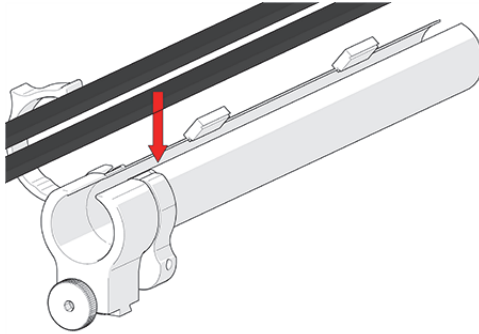

Figure 3-52 Insert cables and hoses
1. Open the zipper tube and cable clip. Begin at the tube's dovetail mount and place the cabling in the tube (see Figure 3-52 on page 69).